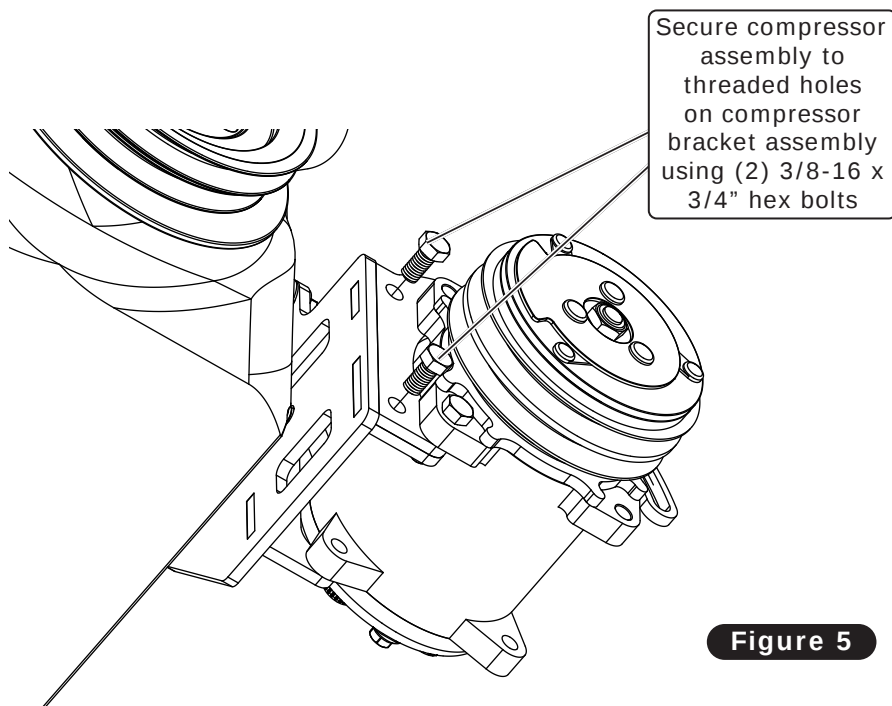

Figure 5
7. Secure the compressor assembly to the threaded holes on the compressor bracket assembly using (2) 3/8-16 x 3/4" hex bolts as shown in Figure 5, below.